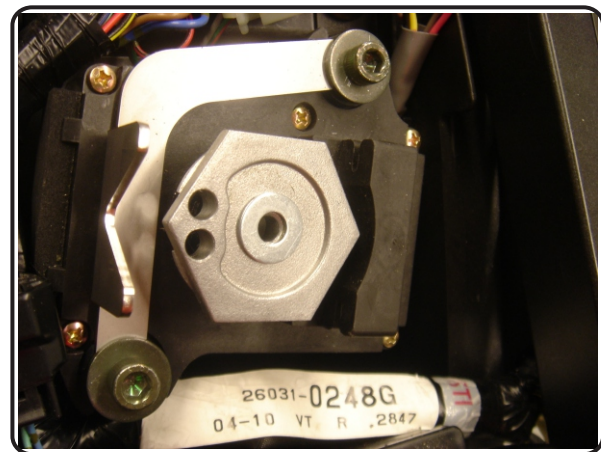

Fig. 12
- 13 Place stock hexagonal disc and supplied washer onto servo motor with holes facing the “V” in the Yoshimura stopper bracket (see Fig. 12).